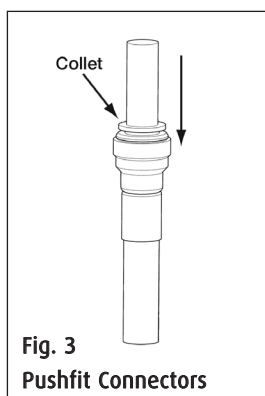

Fig. 3
- **IMPORTANT:** The integral fittings on the hose are of the push fit type. All burrs and rough edges must be removed from the end of the pipe. In the case of a chrome-plated tube, the first 30mm of plating should be removed. Check that flexible hose unions are free from scores, deformities and dirt before assembly. Should it be necessary to remove the pipe after installation, push down and hold the collet while withdrawing the pipe. (See Fig.3)